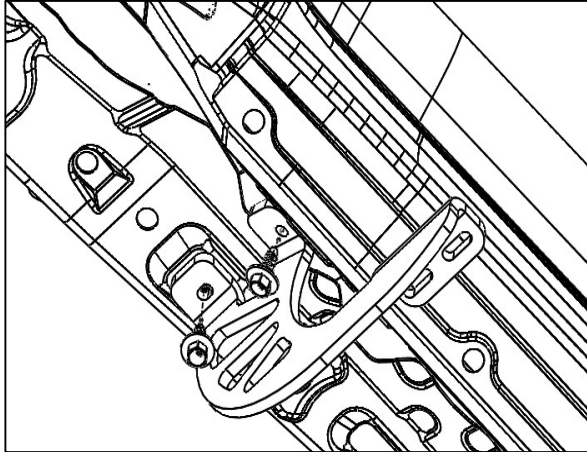

Figure 4
Step 2. Beginning with the front driver side bracket, hand start the bracket to the vehicle by using the supplied M8 SEMS bolts. Figure 4.